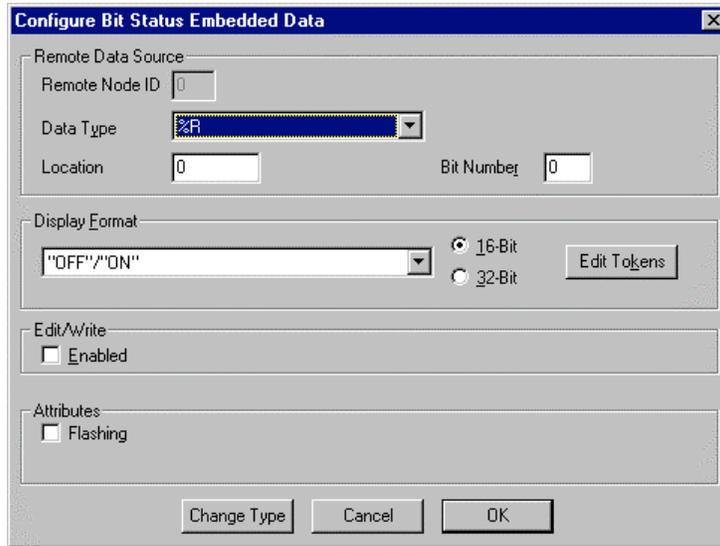

Figure 7.8 – Configure Embedded Data Box
3. On the third line, type "Q1:". Click on the Embed Icon. Select **Bit Status** from **Type**; discrete output (in this example %Q) from **Data Type**; **Location 1**; leave **Token Pair** as "**OFF**"/"**ON**" and click **Edit Enable**. Click **OK**. See Figure 7.8.
On the TIU, press the DOWN key to get to the Discrete Output page (as in Figure 7.8). Press the PAUSE key the toggle Q0: ON by pressing the UP key and ENTER key. Press the PAUSE key until nothing is highlighted (three times).